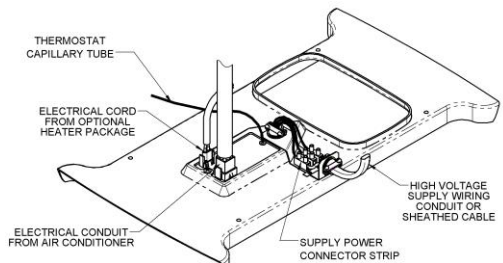

Figure 7
**ROUTING 230/240 VAC Wiring – See Figure 7**
- Raise the ceiling assembly chute and insert the supply wiring through the cable clamp and into the wiring box so that 10-15cm of supply conductor is inside the box. Secure the cable clamp over the supply wire sheath so that no movement is possible (See Figure 7).
- Plug the Air Conditioner electrical conduit into the 9-position receptacle as shown in Figure 7.
- If the optional heater accessory package is being installed, remove the cover from the 2-position receptacle and plug the heater cord into the receptacle as shown in Figure 7.